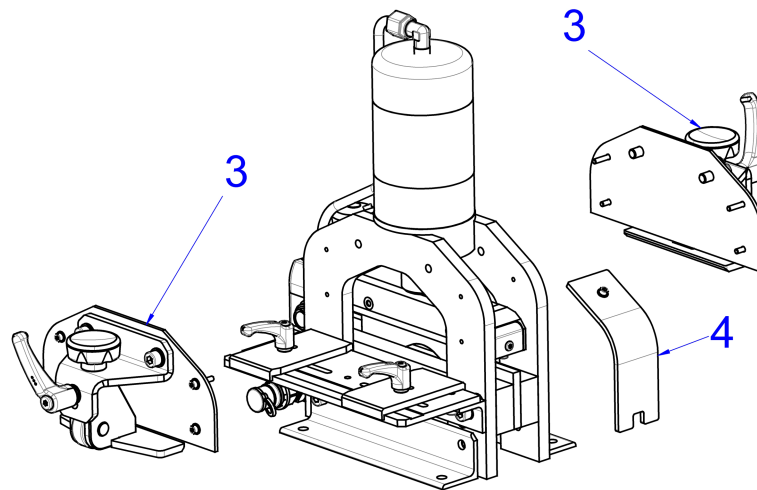

Fig. 11: Dismantling the retainers
- Dismantle the two retainers (fig. 11, 3) and the side protective inspection window (fig. 11, 4).
- Finally, screw on the retainers (fig. 11, 3) and the protective inspection window (fig. 11, 4), and reconnect the hydraulic hose.